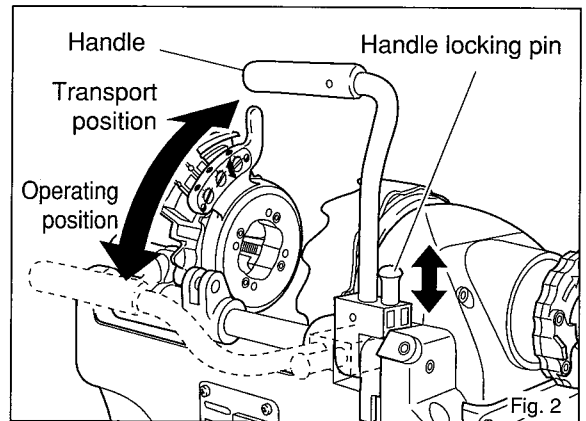

Fig. 2
1. Transporting the Machine (Fig. 2)
- Before cutting threads or the like, make sure the handle is in the operating position as shown in Fig. 2.
Note: When operating the unit, make sure the handle is in the lowered position ("Operating position" in Fig. 2 on Pg. 7).